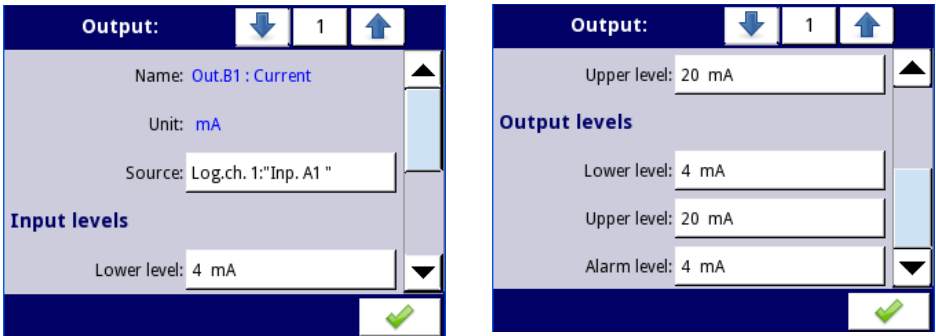

Fig. 7.97. Parameters of the **Passive current output**
- **Lower level** and **Upper level** - these parameters limit the range of the output signal, below this range the input signal will have a **Lower level** value and above this range the signal will have an **Upper level** value, the relationship between Lower and Upper levels is linear and it is limited by a defined range, see Fig. 7.97,